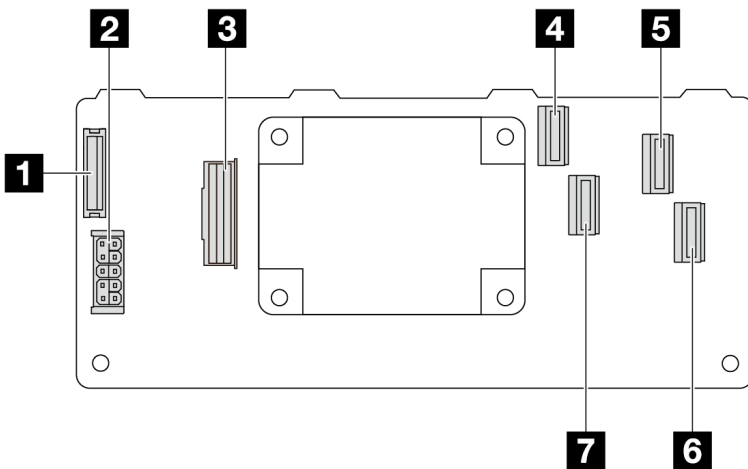

Figure 286. A Gen 3 16i CFF RAID adapter (four port connectors)
- Figure 286 “A Gen 3 16i CFF RAID adapter (four port connectors)” on page 316